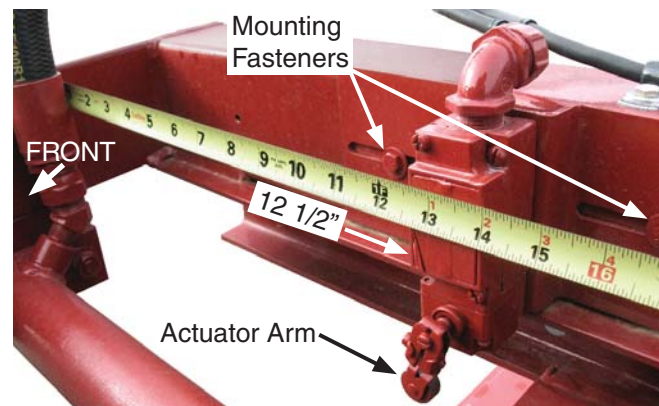

Figure 24 - Limit Switch - 4 Adjustment
1. Adjust the arm so it is pointing straight down. The arm should be positioned such that it will not bind or bend when contacting the cam surface. This will happen if the roller is adjusted to contact the surface at a perpendicular angle (see Figure 24).